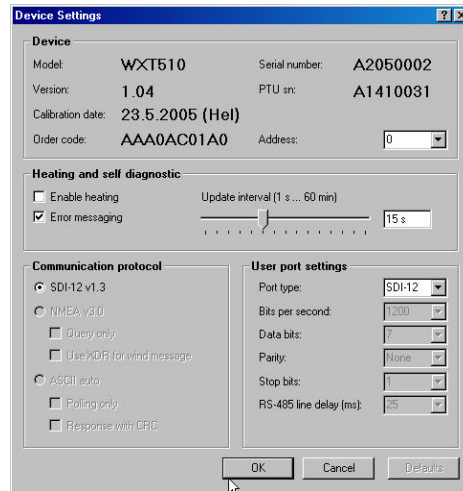

FIGURE A-2. Device Settings Screen
6. Go to the Device Settings Screen and enter the settings for each of the parameters (see Figure A-2). Default settings are: